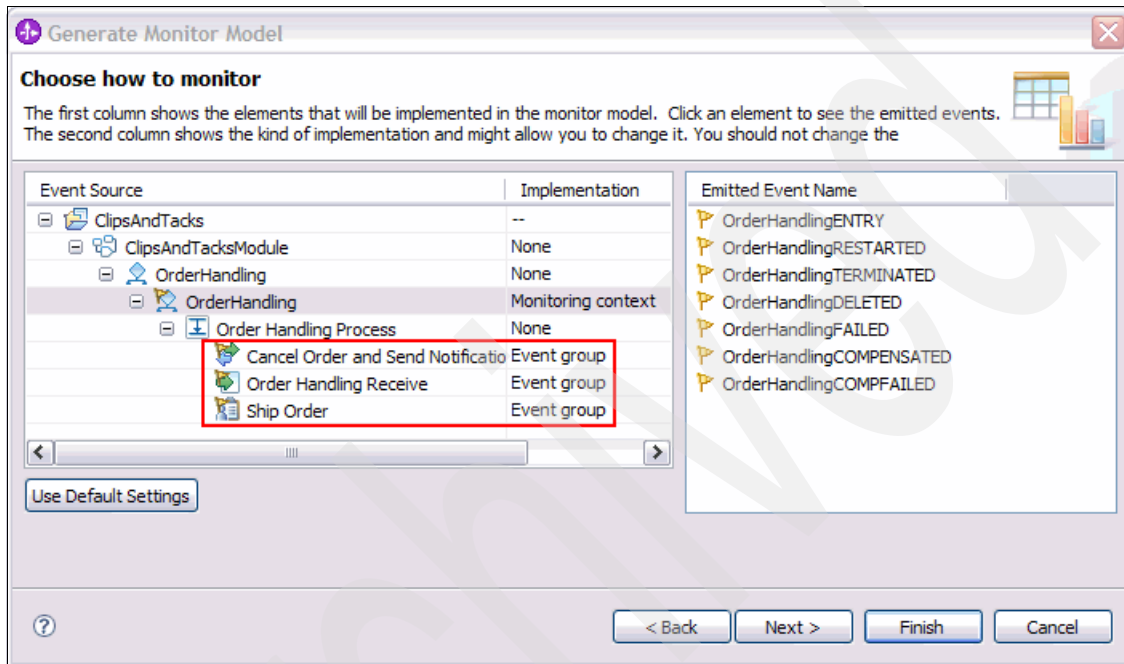

Figure 5-24 Monitor Model implementation
6. In the Generate Monitor Model – Choose how to monitor window (Figure 5-24), define the implementation of the monitor model. The monitor model is simplified by flattening the structure, so that only one monitoring context exists for the process. Create event groups to organize the events. Provide structure in the monitor model by changing the implementation for the activities to **Event group**. Click **Next**.